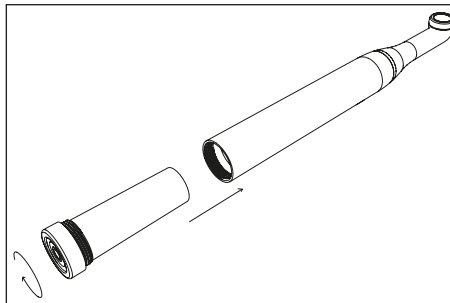

Figure 7 – Battery module insertion.
3. Connect the battery module to the handpiece by tightening the nut of the battery module to the handpiece as shown in Figure 7 at page 10.
To replace the faulty battery, unscrew the battery module from the handpiece, remove it and insert a new one (Figure 7 at page 10).